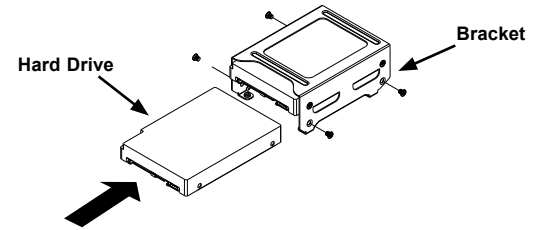

Figure 6-4. Installing 2.5" Hard Drives into the Bracket
2. Secure the drive(s) into the optional bracket as shown in Figure 6-4.